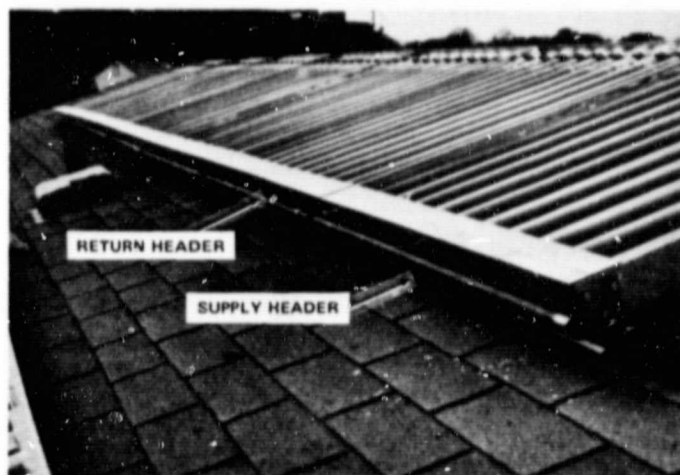
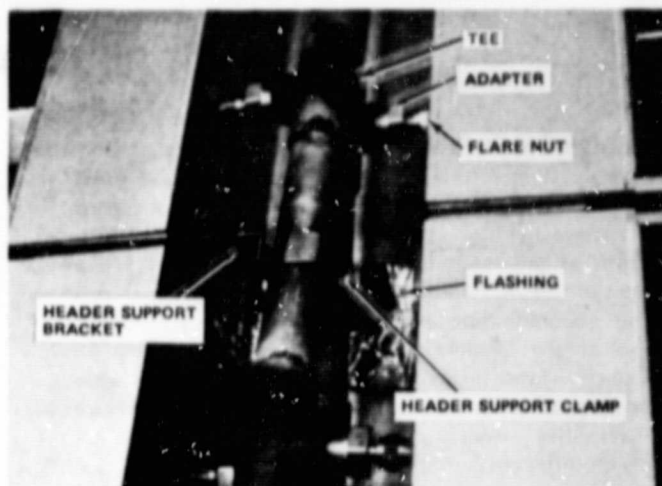

Figure 4-4. Install Headers
Figure 4-5. Connect Header to Collector Fittings and Attach Pipe Support Clamp
2. The plumbing installation should begin at the supply end of each header row. Attach a supply header pipe as the bottom pipe, (Figure 4-4,) to the collectors. Position the pipe by connecting (finger tight) the appropriate collector fittings and be sure that the pigtails coming out of the collectors are centered in the slot. Braze adjacent headers and end plug(s). When brazing next to a collector connection Tee, remove the adapter from the Tee in order to avoid damage during brazing.
3. Attach the return header above the supply header, (Figure 4-4), just installed. Position the pipe by connecting the appropriate collector flare nut fittings (finger tight) and attach the header support clamps (Figure 4-5). Braze adjacent headers and end plug(s). When brazing next to a collector connection Tee, remove the adapter from the Tee in order to avoid damage during brazing.